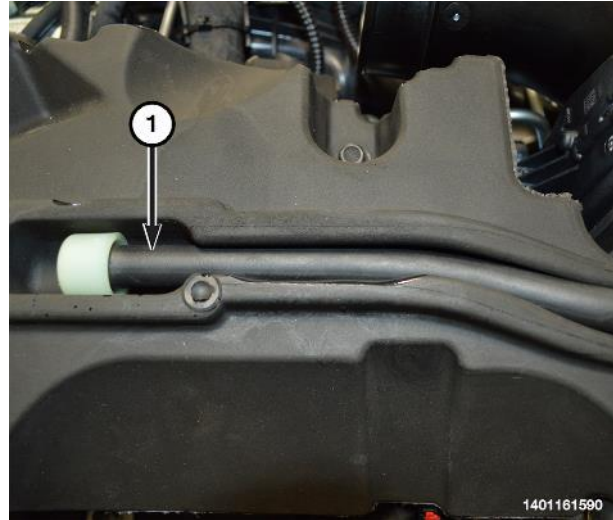

Figure 24 – Vent Hose
8. Remove the vent hose (1) (Figure 24).